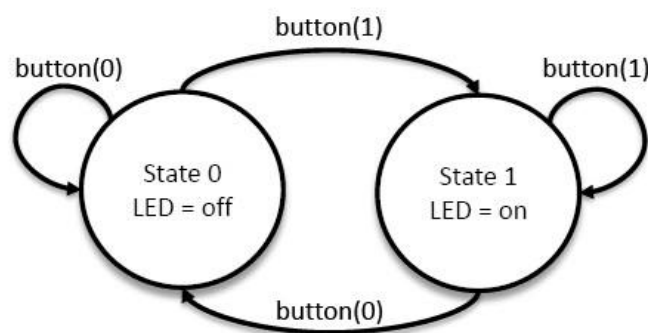

Figure 2: An example state diagram, for a simple state machine.
State diagrams are used to define how a state machine transitions from one state to the next. A very simple state diagram is shown in Figure 2. This “bubble” state diagram has two states, State 0 and State 1. The name of the state and any outputs that are set in that state (LED) are shown inside the bubble. The state transitions, which depend on the inputs (button (0) and button (1)) are shown using arrows. This state diagram shows that if the machine is in State 0, and we press button (1), we’ll transition to State 1 and the LED will turn on. Pressing button (1) again will do nothing. Pressing button .2(0), however, will transition back to State 0 and turn the LED off.